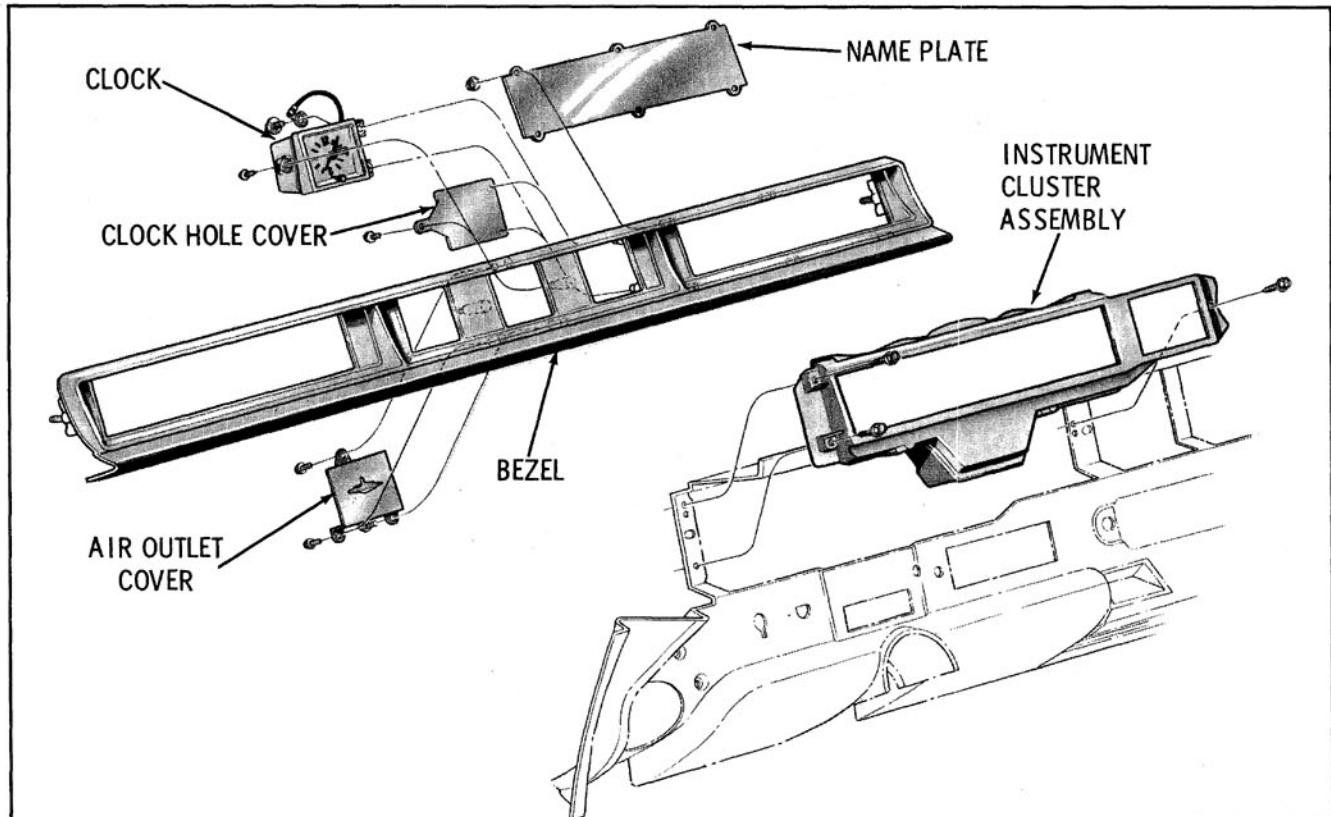

Fig. 12-5 Instrument Cluster Attachment
7. Remove the three cluster-to-instrument panel attaching screws. (Fig. 12-5)